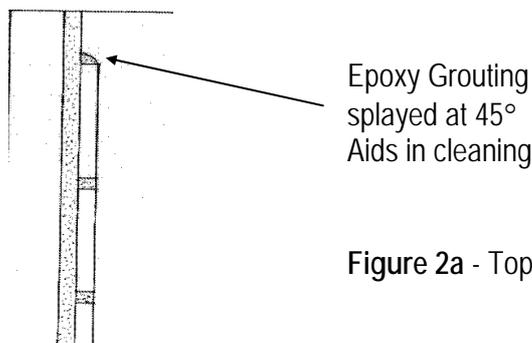

Figure 2a - Top Edge of Wall Tiling
**Where tiles are used it is recommended that the top edge of the wall tiling be splayed with an impervious material or finished flush with the wall material so as not to form a ledge upon which dust or grease can accumulate. (Figure 2a)**